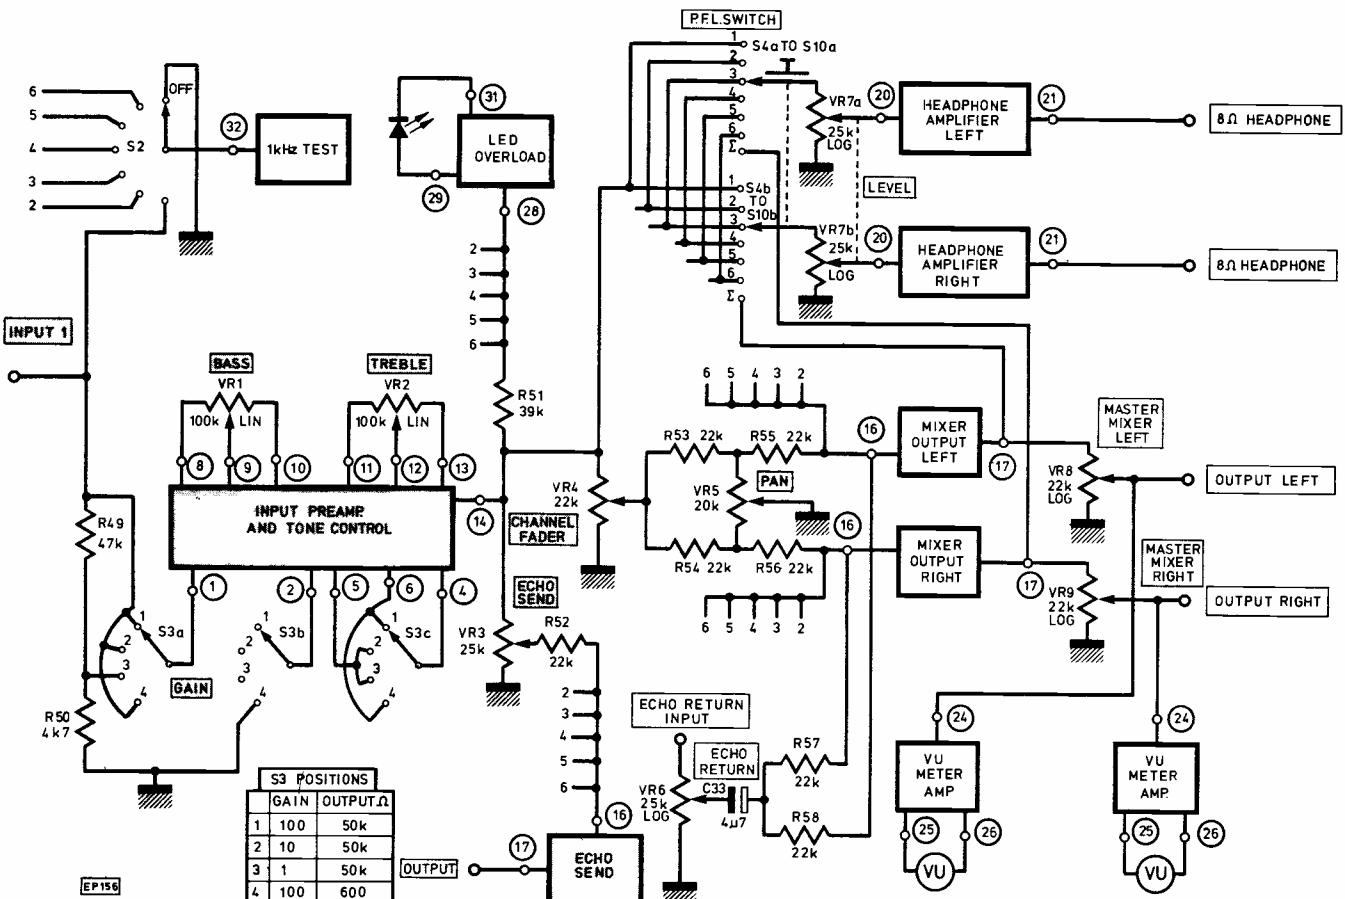

Fig. 1 Block diagram
The diagram (see Fig. 1) shows the unit in the basic six-channel configuration. The input channels are completely separate until linked on the pan buses via the pan pots. These buses are also fed by an additional stereo input (if required). This enables a separate stereo input or more input channels to be coupled in at a later date, into the output stages.
The design for this is the same as the output amplifier circuit. The inputs to this circuit are taken from the echo send pots on each channel through six $22\text{k}\Omega$ resistors to the input pin (16). The output is taken from the master echo capacitor—connected to pin (17)—to the echo send socket. The echo return signal is routed directly to the output channels via the Echo Return control and mixing network (see Fig. 1). As with the output channel amplifiers C12 and R22 provide power supply decoupling.